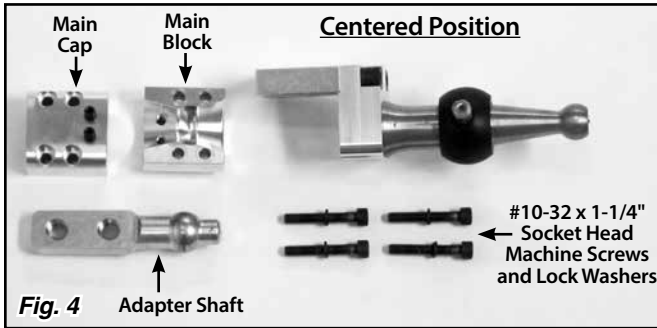

Fig. 4
**Step 2:** If you are using the AxiShift Pro in the centered position, remove the four #10-32 x 1-1/4" socket head machine screws and lock washers from the main cap. Remove the main cap, the adapter shaft, and the main block from the back plate. **Fig. 4**